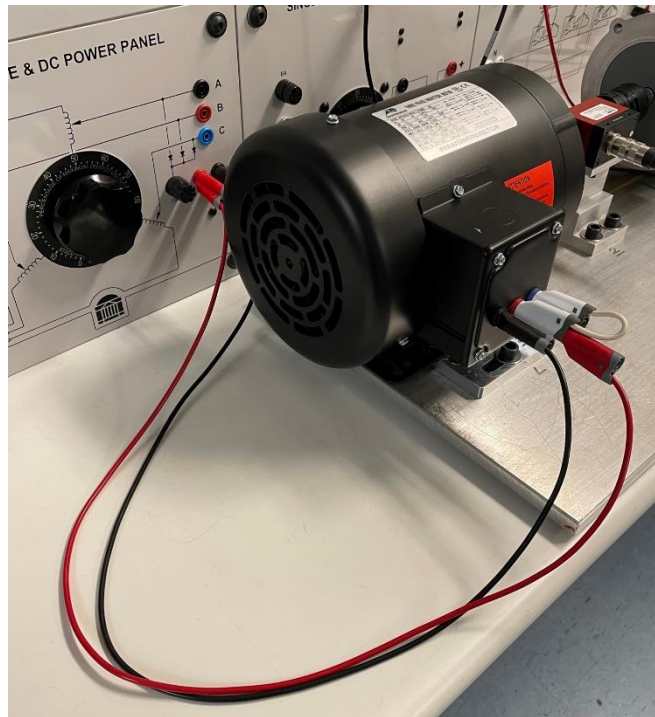

Figure 4
- 4) Connect the AC machine to the DC outputs on the left 3-Phase panel as shown in Figure 4 below.